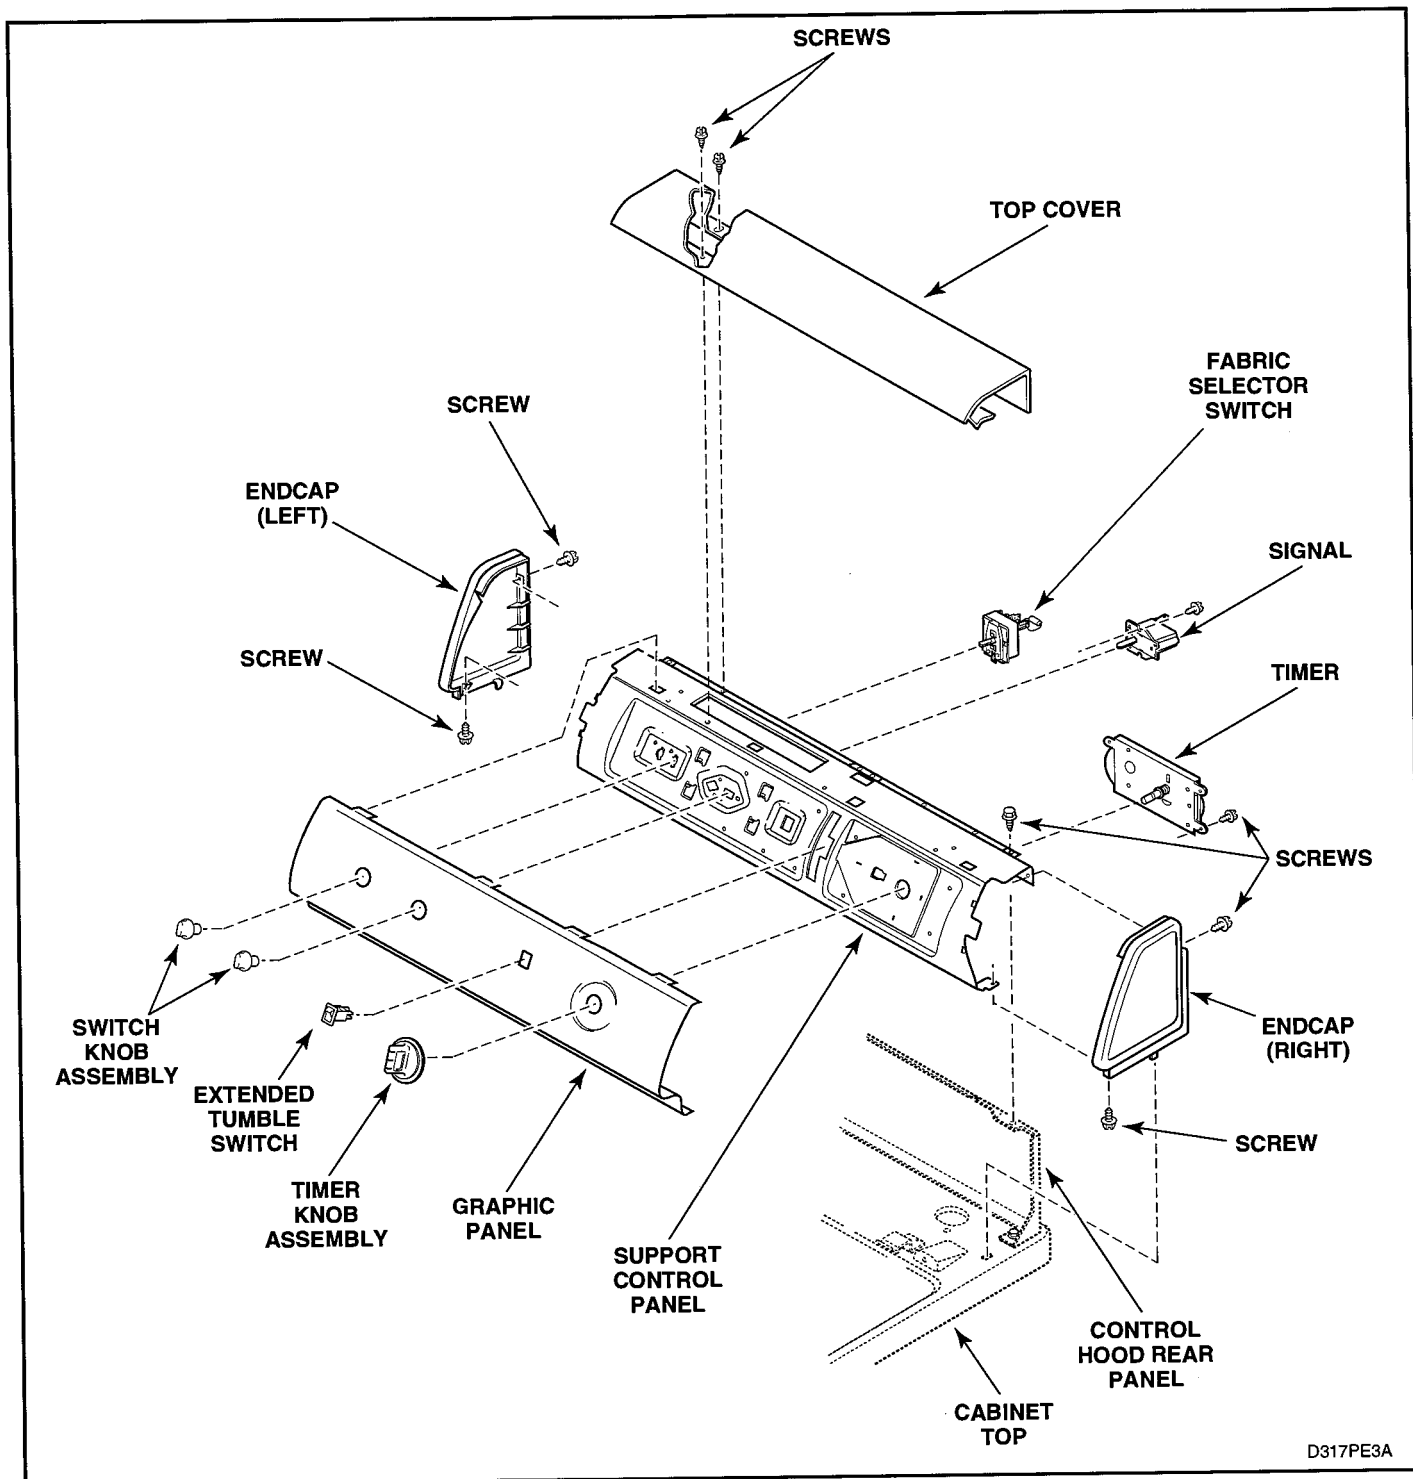

Figure 5-1
1. CONTROL HOOD ASSEMBLY (Figures 5-1, 5-2 and 5-3)
3. CONTROL HOOD END CAPS (Figures 5-1, 5-2, and 5-3)
4. GRAPHICS PANEL (Figures 5-1, 5-2, and 5-3)
5. TIMER (Figures 5-1 and 5-2)
6. FABRIC SELECTOR SWITCH (Not included in electronic control models) (Figures 5-1 and 5-2)
7. SIGNAL CONTROL (Figures 5-1 and 5-2)